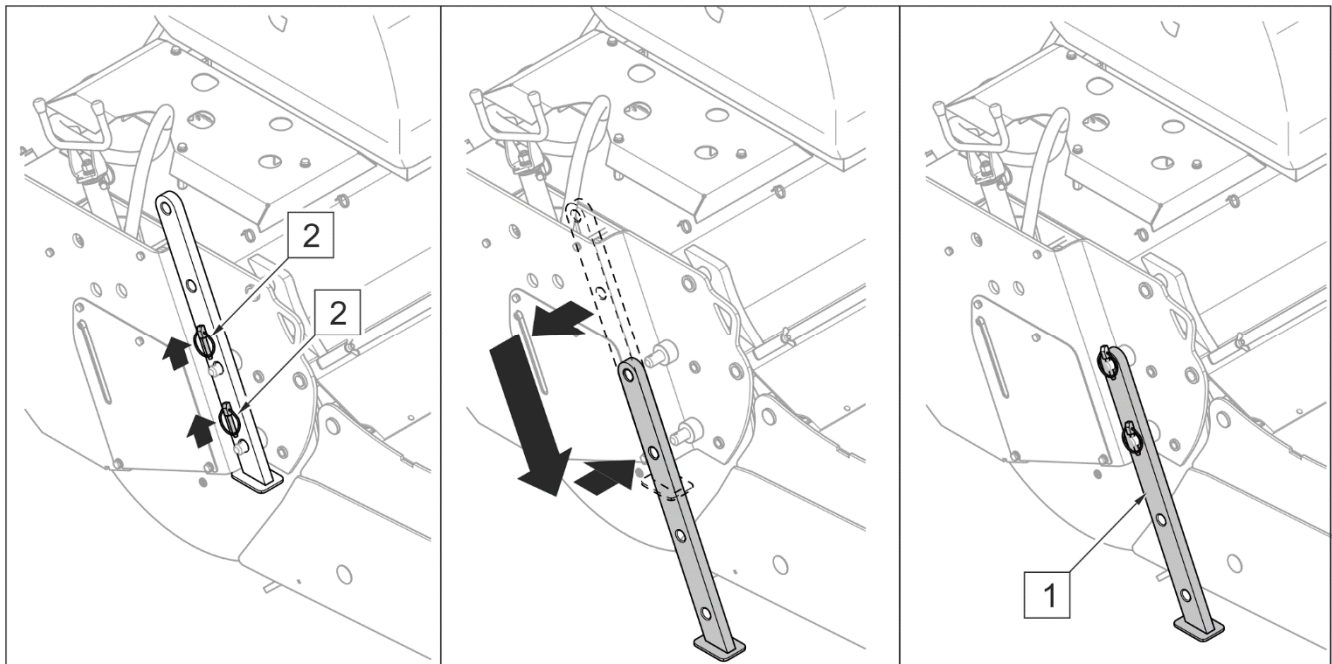

FIGURE 4.21 Parking stands
(1) - parking stand, (2) - linchpin, (3) - securing cotter pin
Parking stands (FIGURE 4.21) should be lowered to their lower position when the machine is hitched and raised on the carrying vehicle's linkage. To do this, take out securing cotter pins (2), move parking stand (1) to its lower position and secure with cotter pins. Repeat the procedure for the other parking stand.
- Lower the parking stands (FIGURE 4.21).